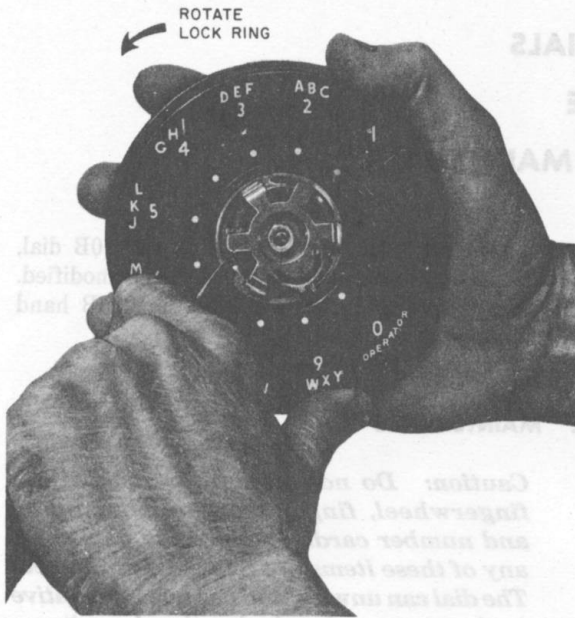

Fig. 10—Lock Ring Removal
- (4) Rotate lock ring as shown in Fig. 10 until it is free.